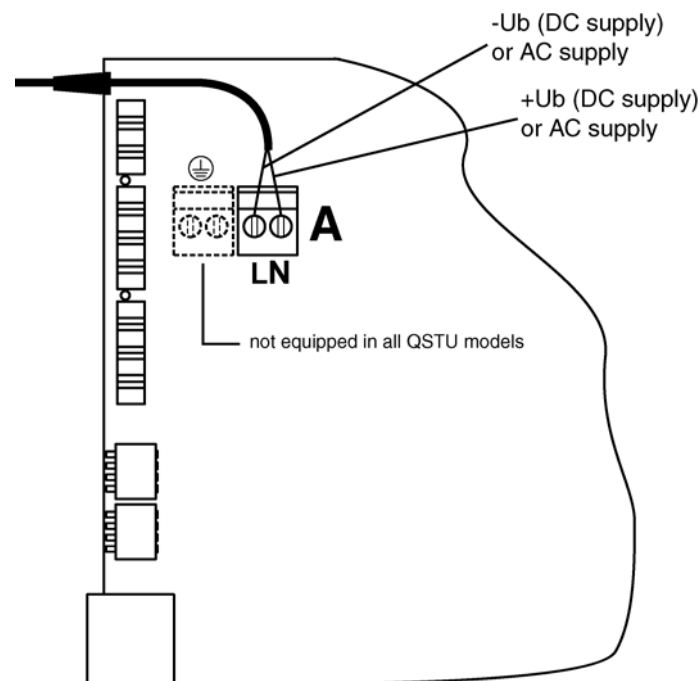

Fig. 2.133 Terminal block (A) for the supply via the cable
You use jumpers to select the type of supply, see chapter 2.11.4. Fig. 2.133 shows the terminals to which the supply cables are assigned.
6. Remove the power cord, see Fig. 2.133 (**Warning:** You must not bend the board)